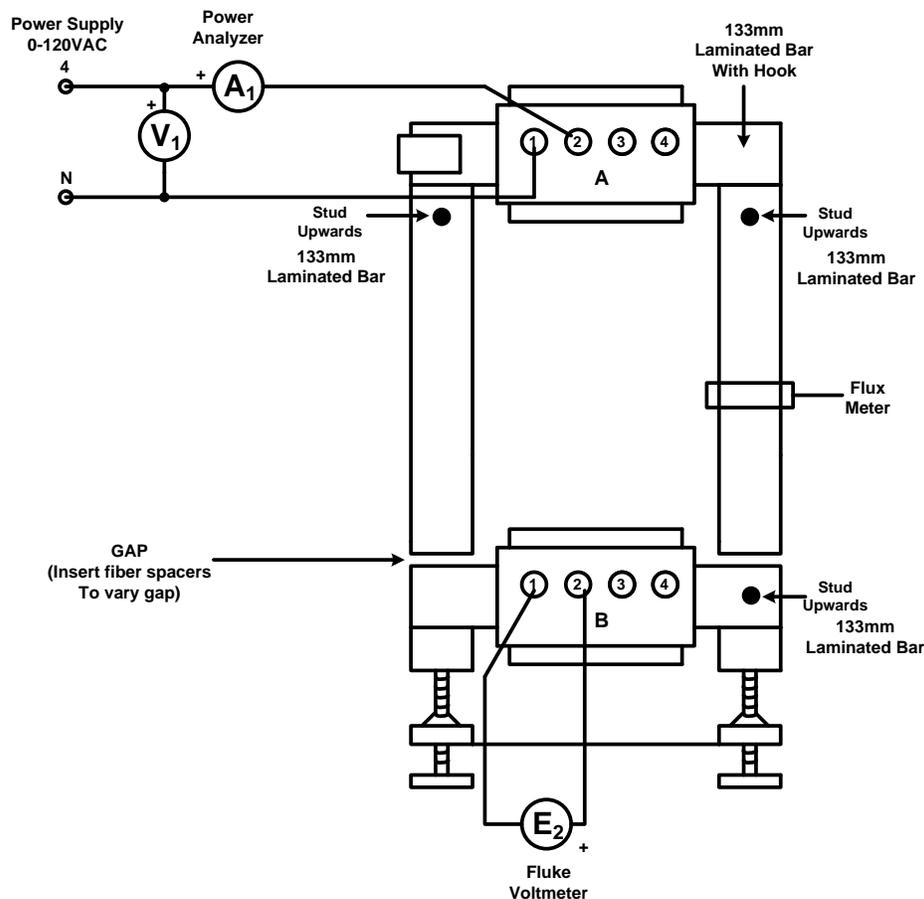

Figure 7: Circuit with Second Coil
Step 8: Let's next consider magnetic induction. Add the second coil to the circuit as shown in Figure 7 by placing coil B about the steel bar separated by the spacers. Using a handheld Fluke meter, measure the induced voltage for the three conditions described in Table 3. For the rightmost column, compute the voltage based on equation (1.7) and your previously measured values of flux.